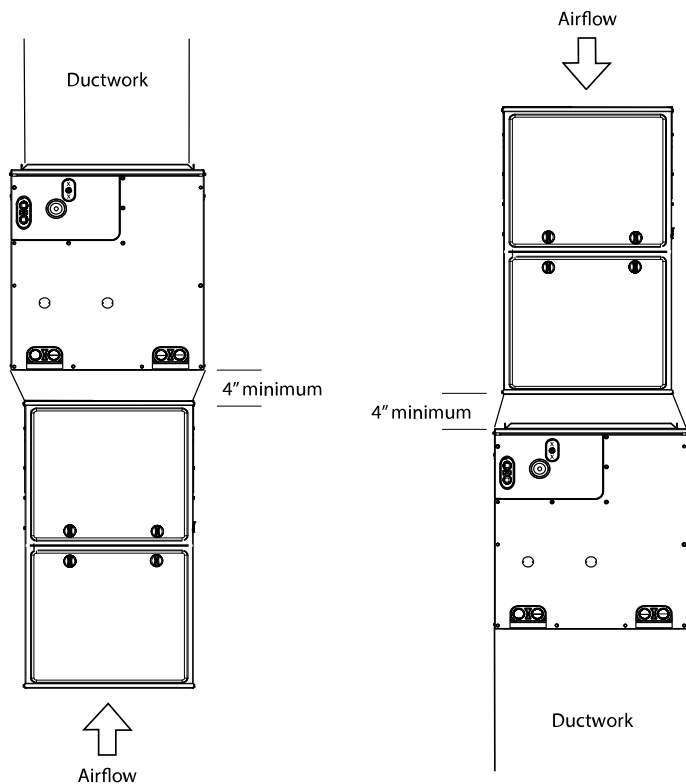

Fig. 3 – Adapter(s) Installation When Coil is Larger than Furnace (recommended)
3. When installing wider coil on narrower furnace, it is recommended to use a transition adapter (Fig. 3).